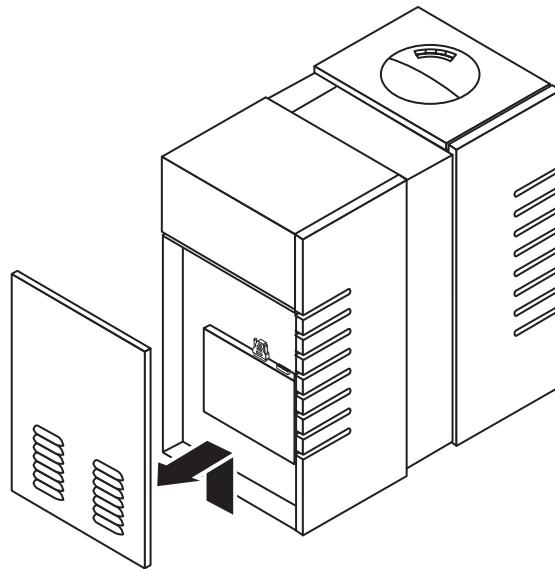

Figure 7: Removing the back access panel
1. Remove the back access panel (side opposite the mailslot) by lifting up on the bottom of the panel and then pulling it away (see Figure 7).